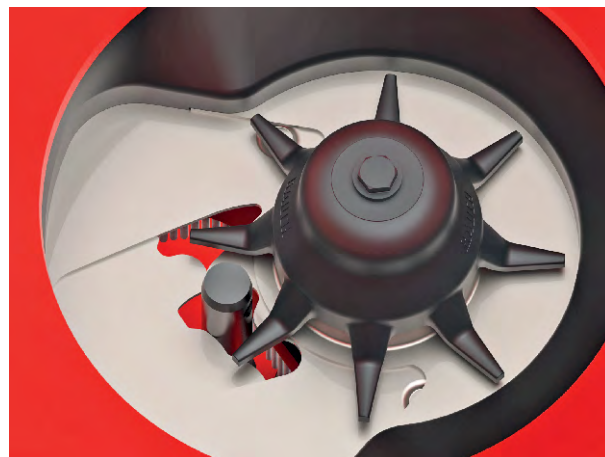

Fig. 57: Lower link pin in metering opening
- ✓ The metering slide is pushed lightly against the pin. See *Fig. 57 Lower link pin in metering opening*.